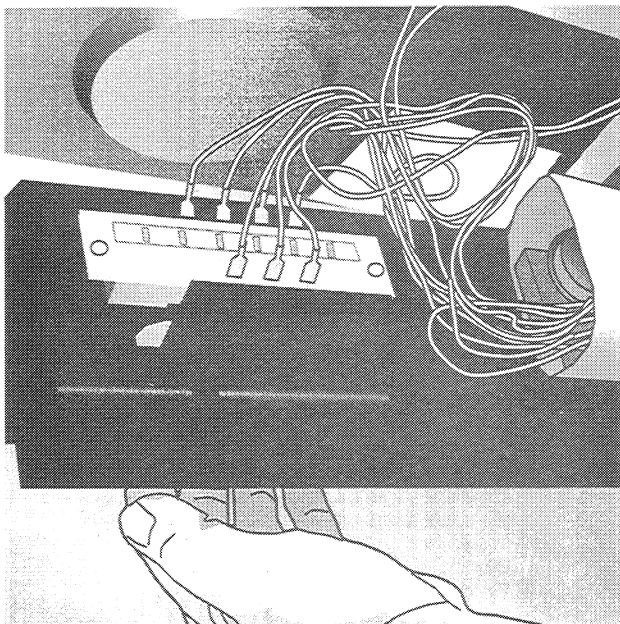

Figure 3
5. Carefully pull console forward to gain access to controls. (See Figure 3.)
3. Carefully pull console forward to gain access to controls. (See Figure 3.)
3. Carefully pull control forward to gain access to controls. (See Figure 3.)